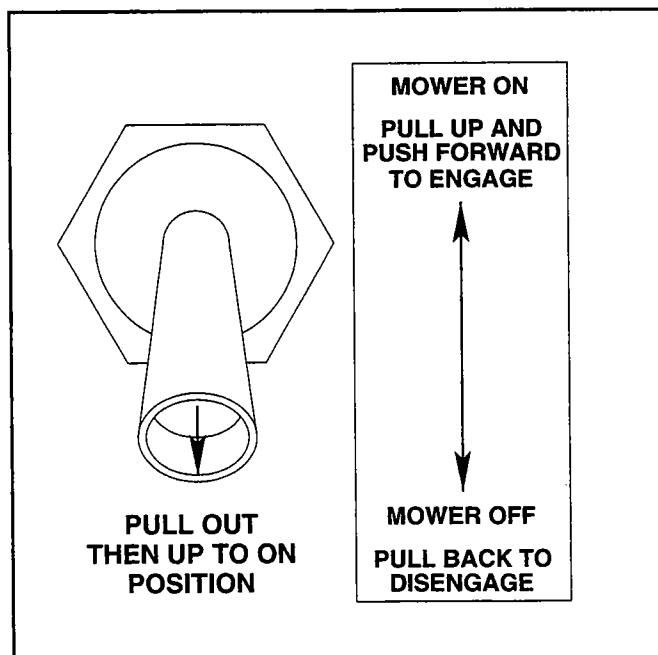

Figure 16
9. Pull mower engagement switch out and push forward to engage cutter drive belts. (**See Figure 16**) Allow belts to run for five minutes.